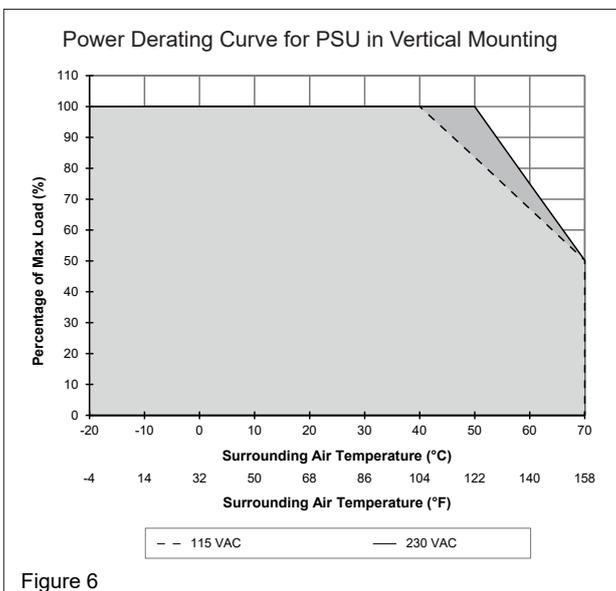

Figure 6
5.4. Thermal behavior (Fig. 6)
Derating	Refer to Fig. 6 > 40°C (1.67%/°C) @ 115VAC (90-229 VAC) > 50°C (2.5%/°C) @ 230VAC (230-264 VAC)
Operating temperature (surrounding air temperature)	-20°C to +70°C [-4°F to +158°F] (Refer to Fig. 6)